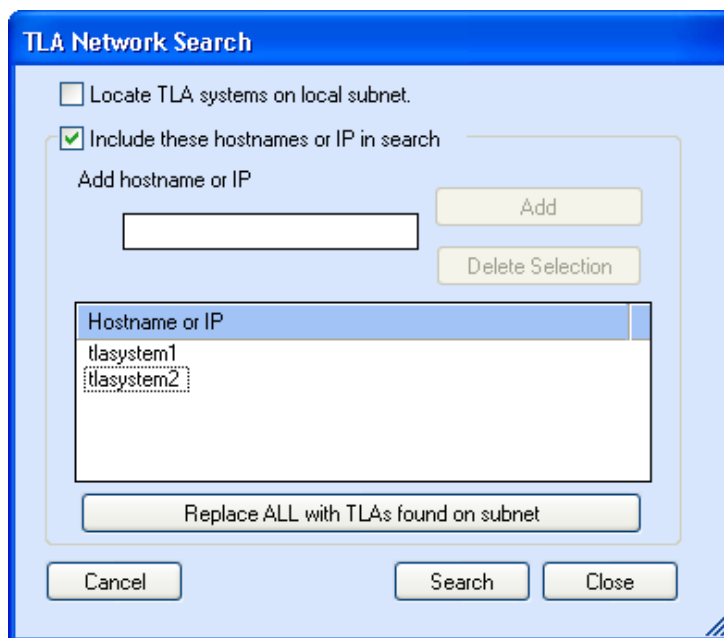

Figure 24: TLA Network Search dialog box
- Click  (Search icon) to open the TLA Network Search dialog box. The search for instruments returns with the name of the mainframes that are connected to the master mainframe. (See Figure 24.)